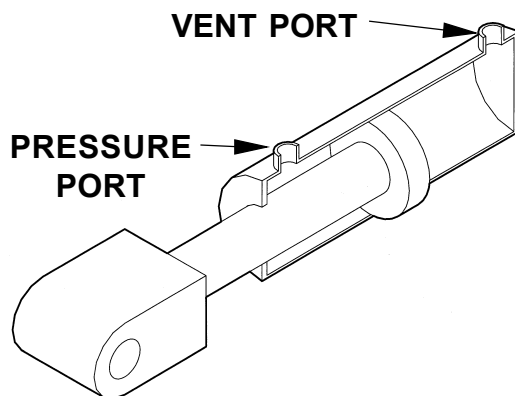

FIG. 3
3. Check the Hydraulic Cylinder. With the Platform on the ground, remove the Breather Plug or Vent Line from the Vent Port of the Cylinder. Raise the Platform to be level with the bed. If hydraulic fluid streams from the Vent Port, the Piston Seals are worn. Replace the Seals. **(See FIG. 3).**